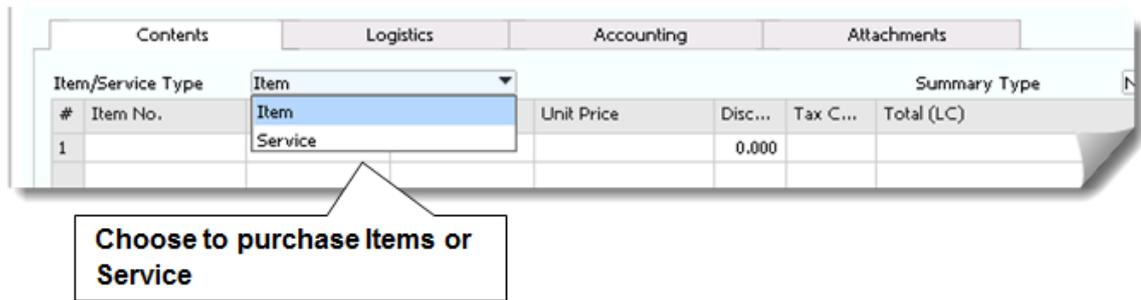

Figure 6-7: Purchasing an item and or a service
- **Contents tab:** In the **Item/Service Type** field, make sure the type you select corresponds to what you are ordering, as shown in Figure 6-7. Enter all items (or services - but note that you cannot mix the two items and services in a single purchasing document) you are ordering into the table. (See Getting Started: Common Structure and Key Data earlier in this chapter.)